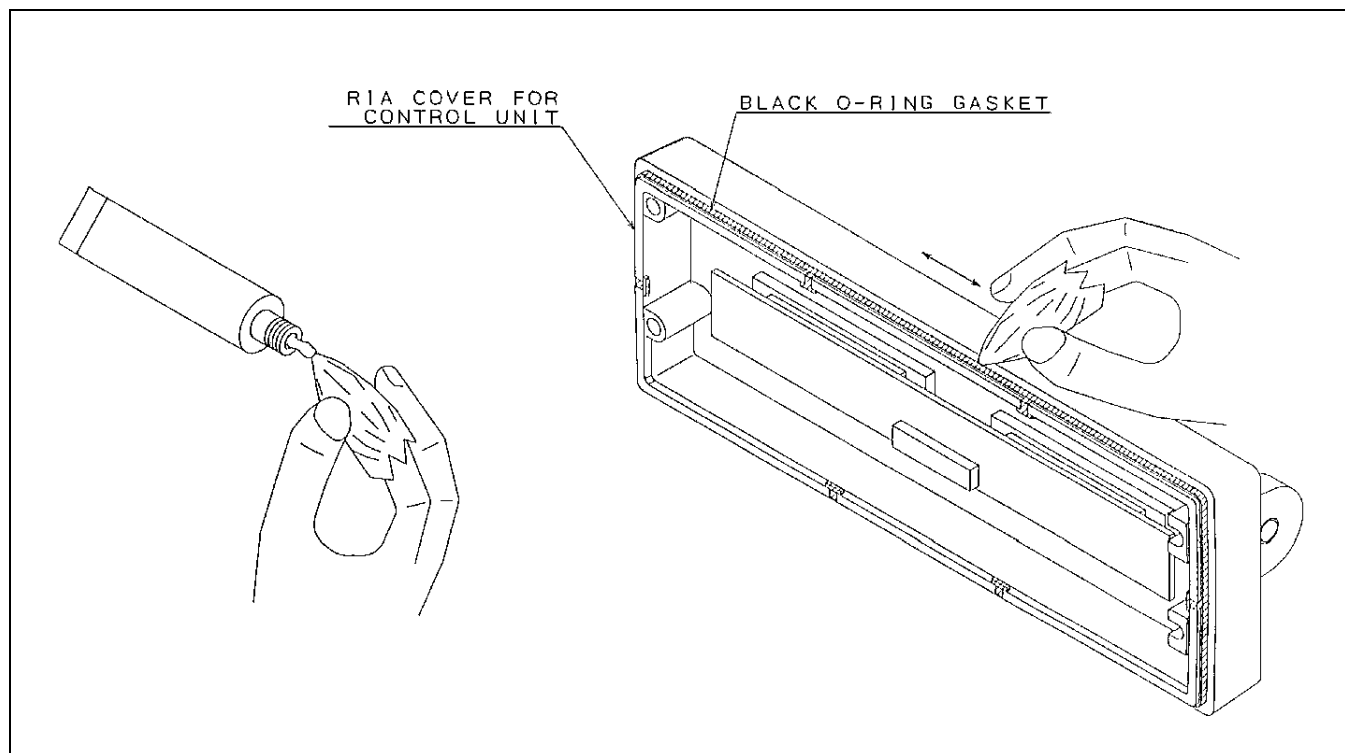

Figure 1 - Remote Mount Control Unit "O-Ring" Lubrication
To reload Tracking Data, connect the radio in the appropriate configuration as shown in Figure 1 or 2, and perform the following steps:
3. If measurements are within limits, the job is complete. If not, reconnect in the programming configuration according to Figures 1 or 2 and execute the programming maintenance software "MRKMAINT". Display the Tracking Data screen. For those frequencies where measurements are not within limits, enter new Tracking Data, following instructions on the screen. Program into radio personality and exit.